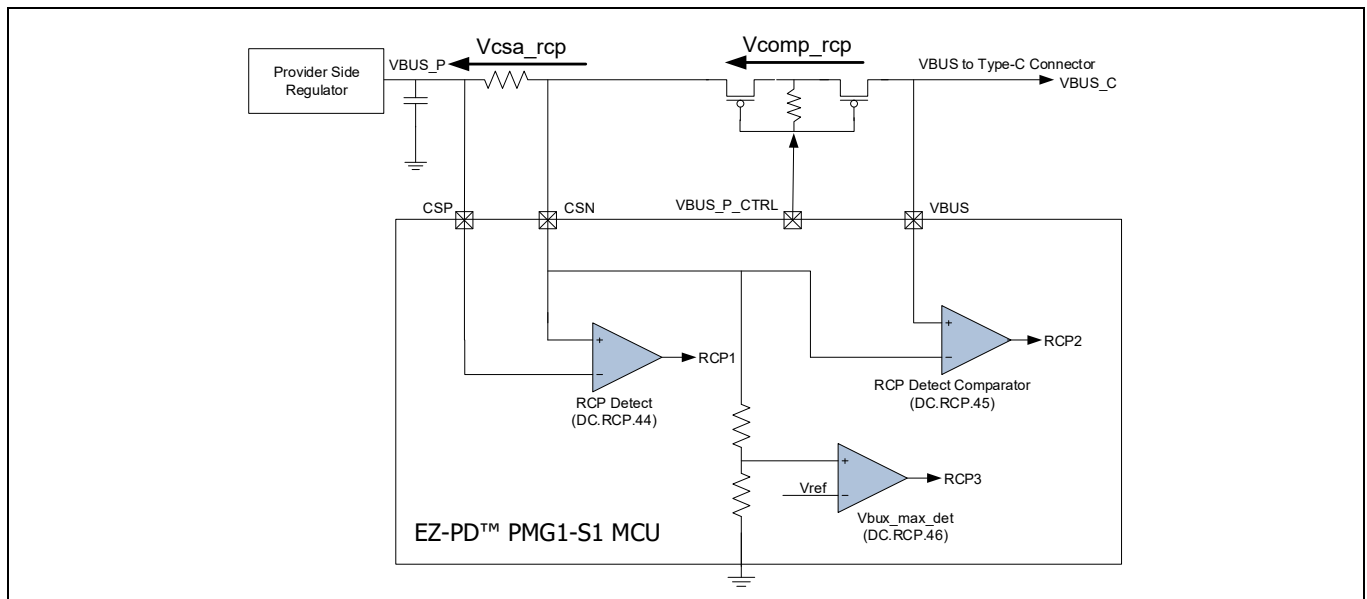

Figure 5 RCP mechanism
EZ-PD™ PMG1-S1 has three distinct mechanisms to detect the reverse current as shown in Figure 5.
- Mechanism 1: A comparator senses the voltage drop across external Rsense through pins CSP and CSN. This comparator signals an RCP event whenever $CSN > CSP$ by the V_{csa_rcp} voltage given in Table 34. The output of this comparator RCP1 is shown in Figure 5.
- Mechanism 2: A comparator senses the voltage drop across provider FET through CSN and VBUS pin of EZ-PD™ PMG1-S1. This comparator signals an RCP event whenever $VBUS > CSN$ by the V_{comp_rcp} voltage given in Table 34. The output of this comparator RCP2 is shown in Figure 5.
- Mechanism 3: A comparator senses the 20% voltage of the CSN pin and compares it against $V_{ref} = 1.15$ V for 5-V provider VBUS application. This comparator signals an RCP event whenever CSN voltage goes above $V_{bus_max_det}$ voltage given in Table 34 for a 5-V application. The output of this comparator RCP3 is shown in Figure 5. Note that V_{ref} is programmable and the voltage divider has an option to use 10% or 20% value. For a higher voltage of the provider, the VBUS device automatically adjusts this threshold.